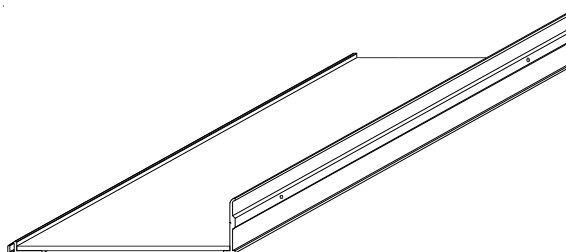

Figure 6
**STEP 6.** Drill the holes into the cover plates at the marked locations (see Figure 6).